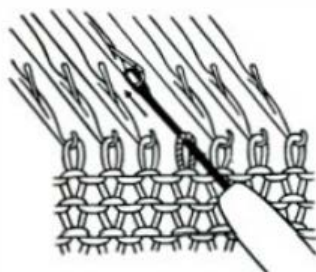

Fig. 30
- c. Without releasing the transfer tool, push the needle all the way back until the stitch is transferred onto the transfer tool. (See Fig. 30)